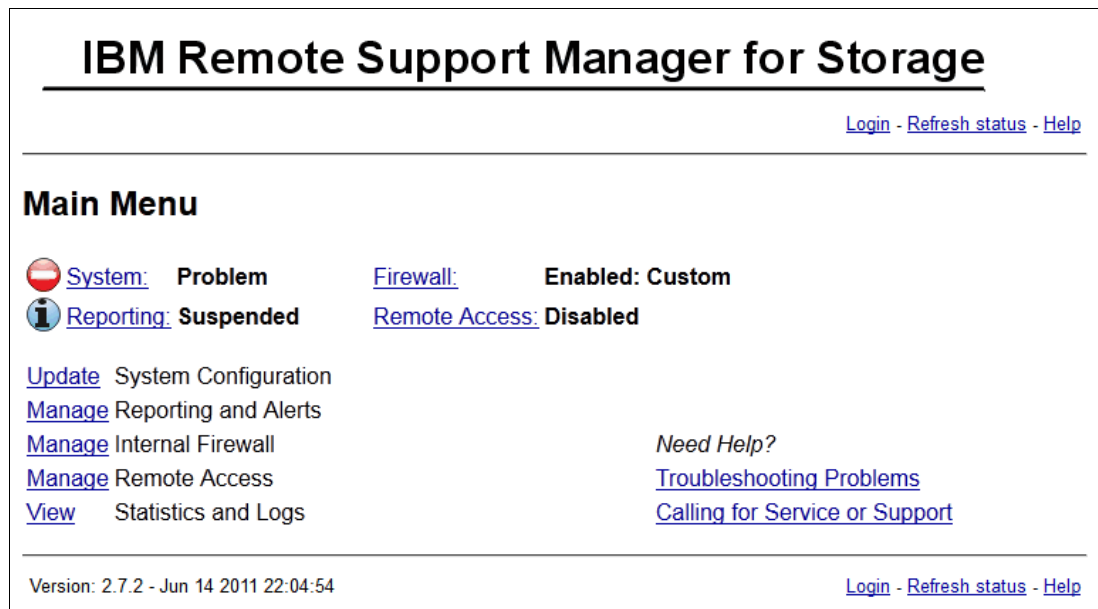

Figure 6-5 RSM administration window
- c. Click the **Manage** icon on the Desktop to open a web browser that shows the main administration window as shown in Figure 6-5. Click **Login**.